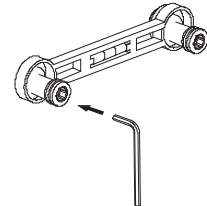

Figure 3
c) Make sure the 2 curved connectors are installed dead straight into the wall. The centre distance between 2 curved connectors is $150\pm 8\text{mm}$. Use the spirit level ⑫ to make sure the centre line remains horizontal (Figure 3).